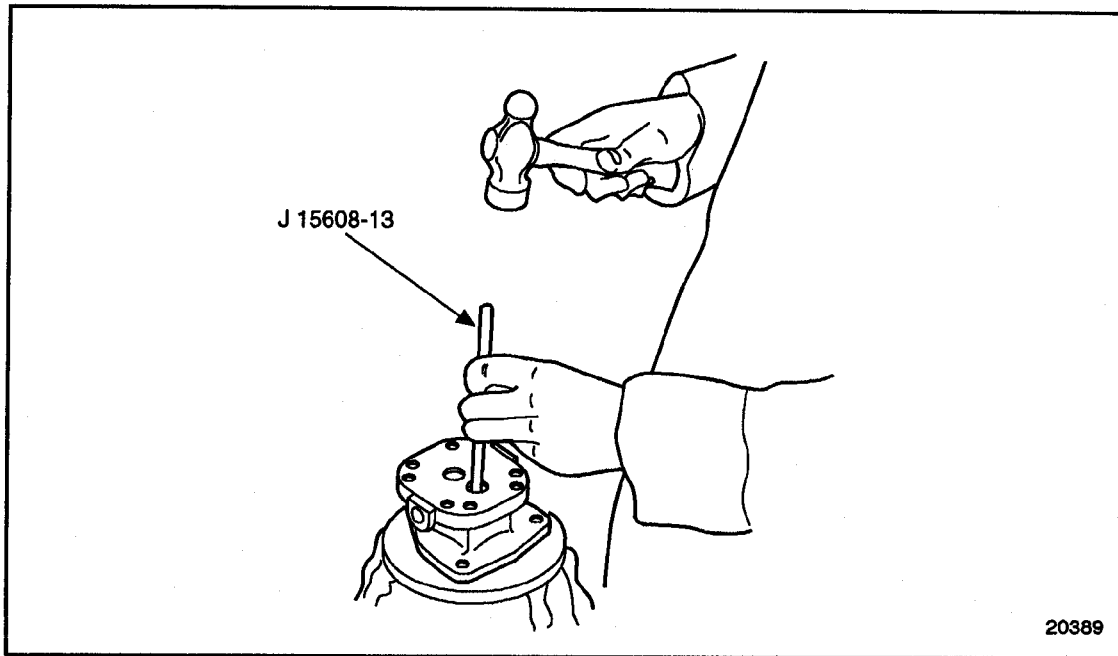

Figure 2-49 Oil Seal Removal
10. Position pump on fixture, J 38767-1, and insert the lip of seal remover, J 1508-13, between the inner and outer oil seals. Tap the tool with a light hammer to drive the outer seal out of the pump body. See Figure 2-49. Discard the outer seal.